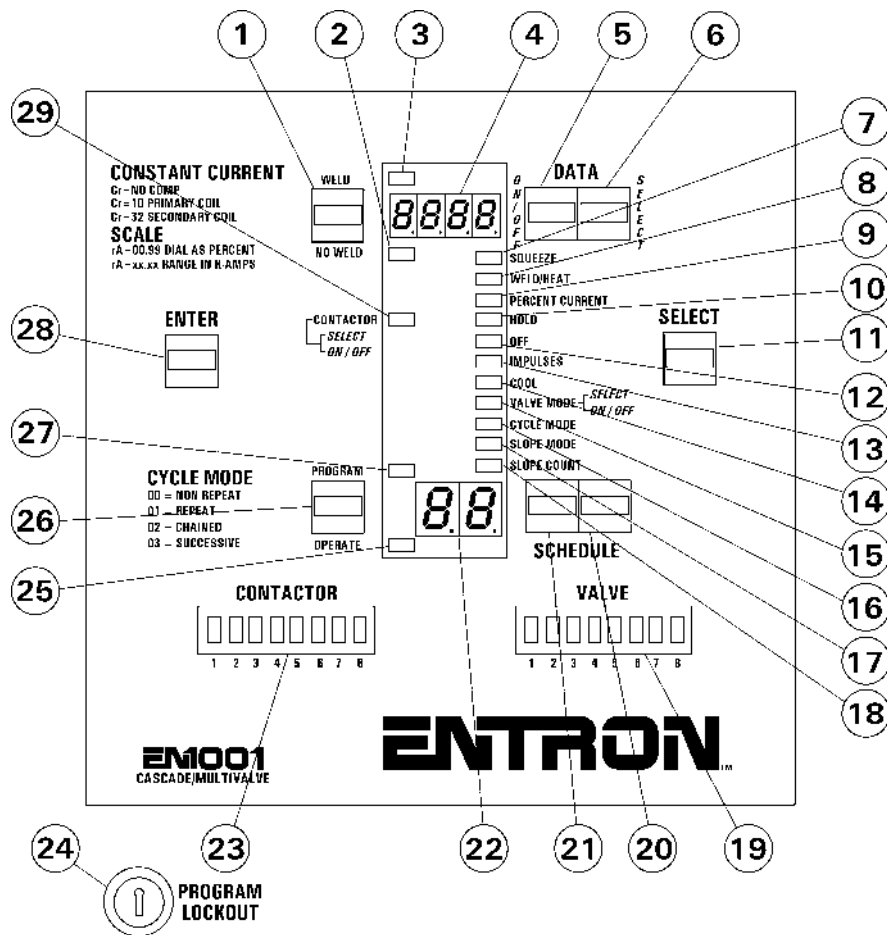

Figure 1. Front Panel EN1000/EN1001 Cascade Multivalve layout
2.1 CONTROL FUNCTIONS - See Figure 1, CONTROL PANEL LAYOUT
2.1 CONTROL FUNCTIONS - Continued - See Figure 1, CONTROL PANEL LAYOUT (Page 6)